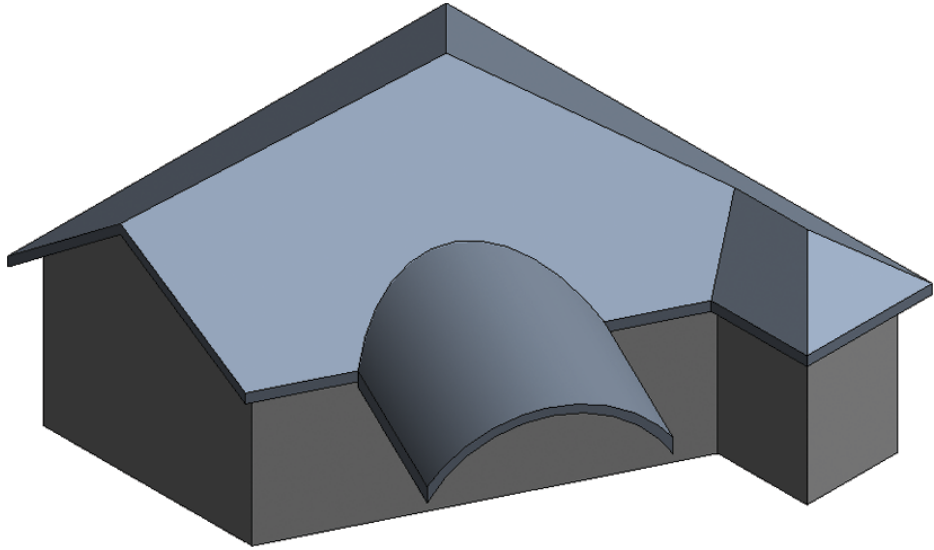

FIGURE 3.22 Joined roofs
8. Select the face of the previously created roof that you want to connect to the extruded roof. The extruded roof now extends back to meet the face of the other roof (Figure 3.22). If either roof is modified, Revit Architecture will do its best to maintain this connected relationship.